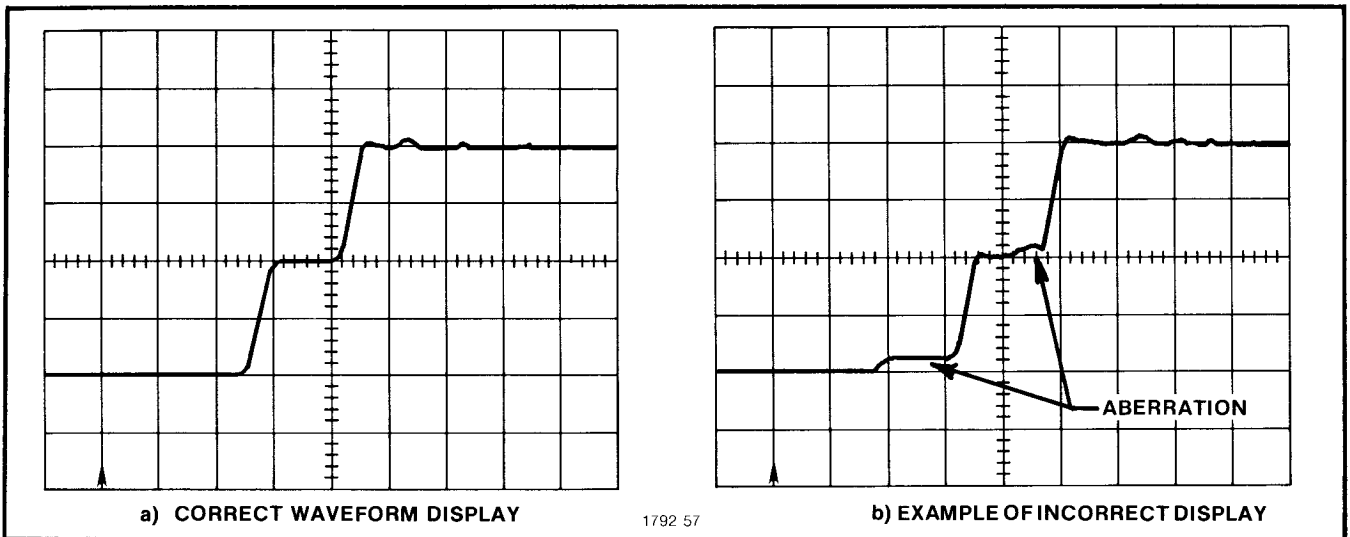

Fig. 4-10. Pulse Display.
88. Check—that the incident and reflected pulse both have equal amplitudes (see Fig. 4-10 for photos of the correct display).
89(a). Adjust—R1525 (AVAL VOLT), R1538 (SNAP-OFF), and R1692 (TD BIAS) located on the MAIN board, for a correctly triggered display as shown in Fig. 4-10.